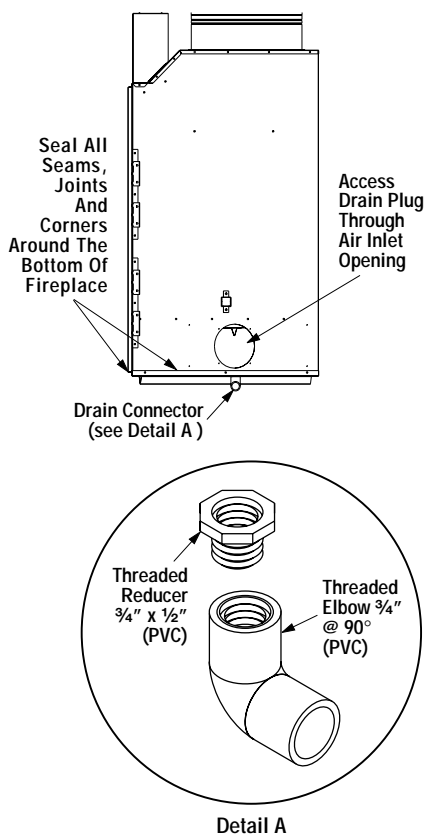

Figure 4
Step 1. Seal all joints, gaps and corners around the bottom of the fireplace before positioning the fireplace on its location (Figure 4).